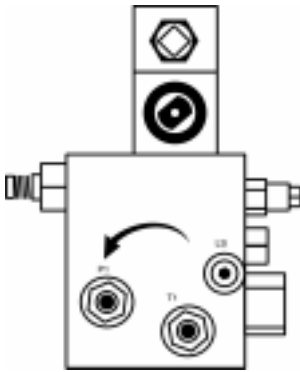

Figure 3.2
- Attach the hose which is connected to the “P1” port on the GRADEMASTER valve to the “Pressure” connector on your tractor. See Figure 3.2.